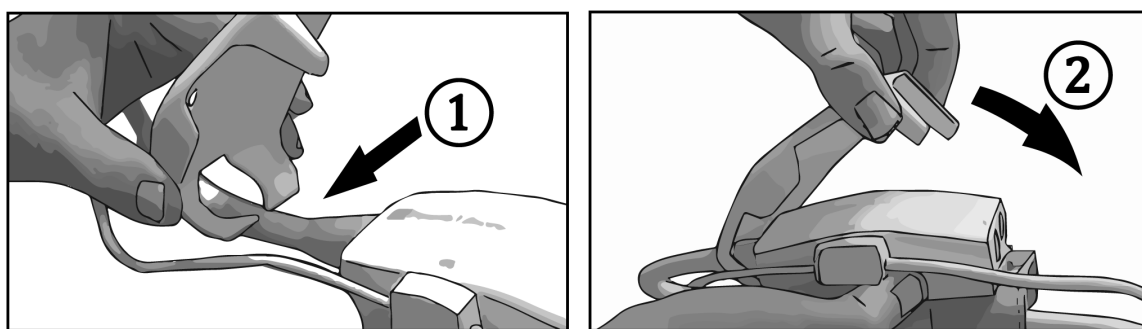

Figure B-1: Applying pressure controller cover
2. Place the pressure controller cover's back mounting notch around the pressure controller cable. See step 1 in Figure B-1 on page 336.
3. Snap the pressure controller cover over the pressure controller, making sure that the pressure controller cover does not interfere with the heart reference sensor (HRS) connection. See step 2 in Figure B-1 on page 336.